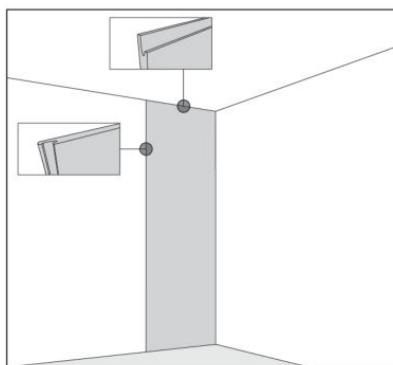

Fig.19
- Butt the mineral core wall panel firmly to the wall, align its bottom edge flush with internal corner trim edge; check horizontal alignment with a level gauge and vertical alignment against both the wall and panel 4 with a laser level gauge, then tap gently with a rubber hammer to secure tightly, leaving no gaps between panel 4 and internal corner trim.(Fig.19)